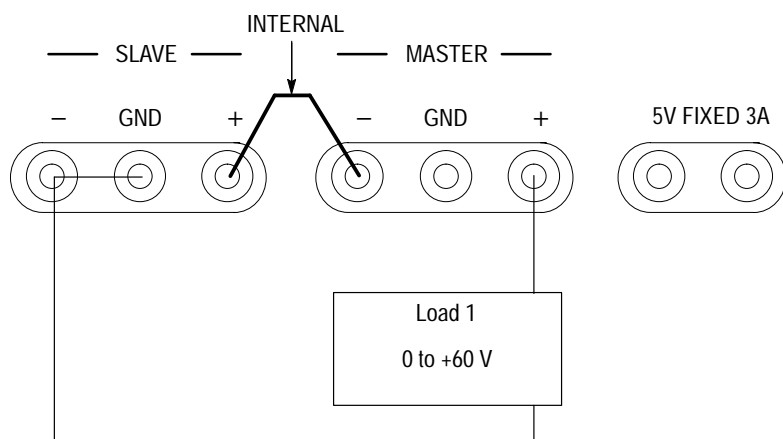

Figure 12: Series Tracking Application
2. Connect the outputs as shown in Figure 12.